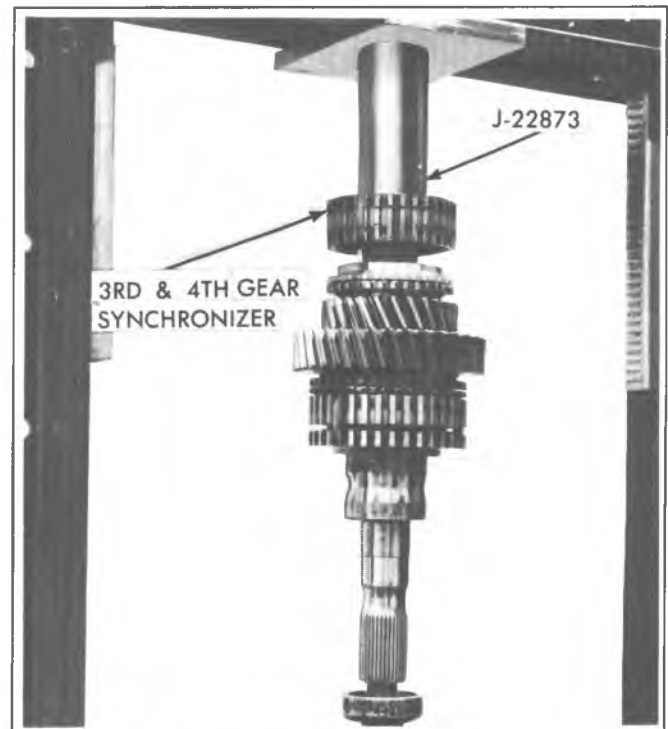

Fig. 7B-19L--Installing 3rd and 4th Gear Synchronizer
8. Index synchronizer ring key slots with synchronizer assembly keys and press 3rd and 4th synchronizer assembly onto mainshaft using Tool J-22875 and against 3rd speed gear bushing thrust face toward 3rd speed gear (Fig. 7B-19L). Retain synchronizer assembly with snap ring.